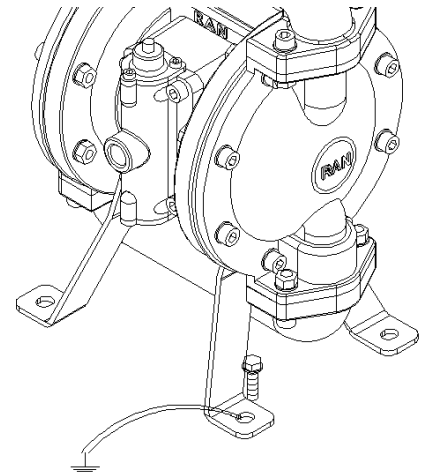

Figure 9- Pump grounding
**5.6.1. For the pump:** Use a conductor (for grounding) with a cross-section of at least 1.5 mm2. Connect the conductor to the pump's leg as shown on Fig. 9, and the other end to the grounding line.